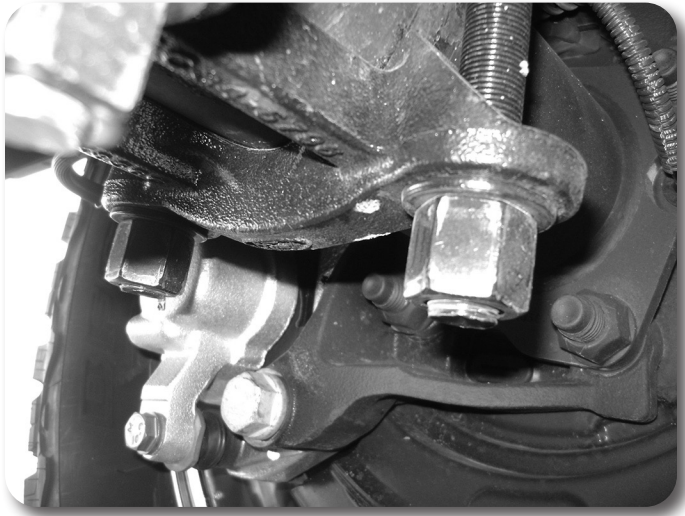

Figure 22
19. Raise the axle to engage the block spring alignment pins. Fasten the entire assembly with the provided u-bolts, washers, and nuts. Snug but do not torque the u-bolts at this time. Figure 22